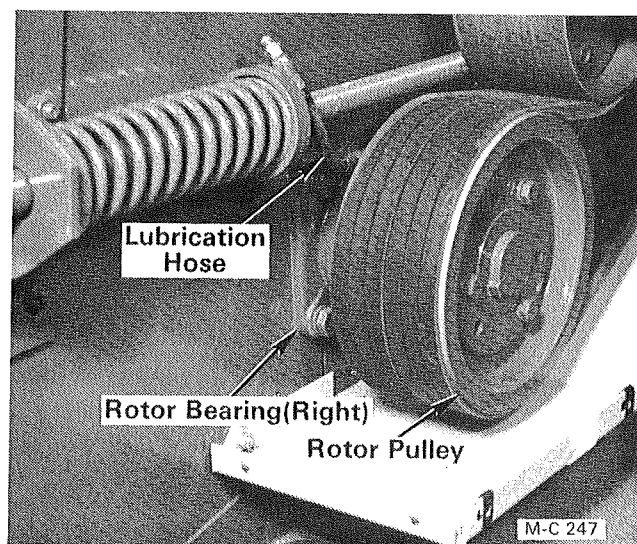

Figure 42 - Idler Push Rod Ass'y. Below S/N 50439
2. Remove the belt guard cover, lubrication hose and back belt guard, see Figure 42. Remove the drive belts. Refer to "Drive Belt Replacement" page 18 for procedure.